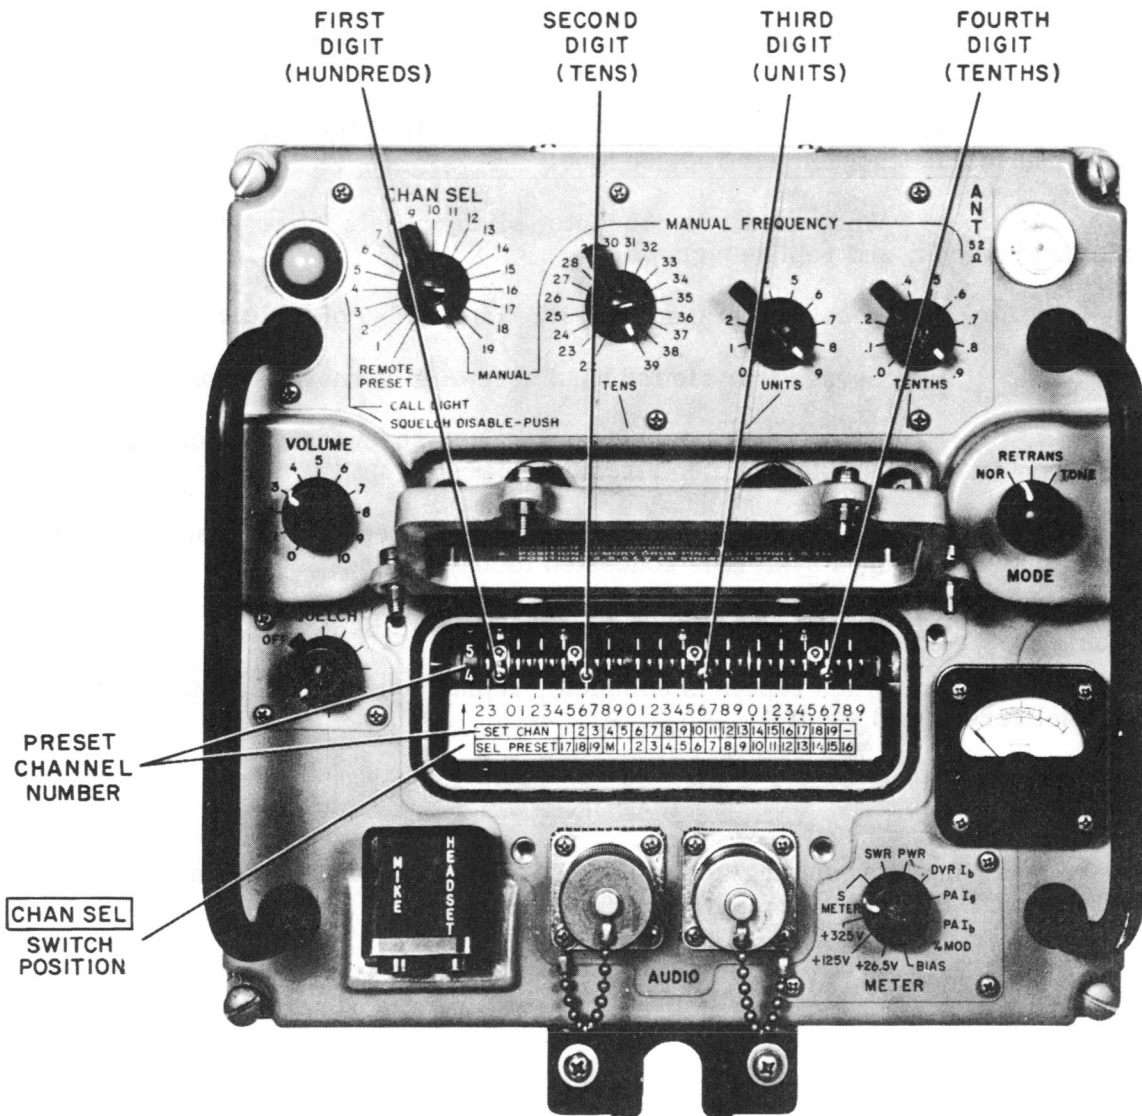

Figure 6-1. Preset Channel Memory Drum, Radio Set AN/URC-9
(a) Radio Set AN/URC-9. (See figure 6-1.)
3. Set CHAN SEL switch so that desired channel number on the memory drum appears directly above the chart. See figure 6-1. The proper CHAN SEL switch position can be determined from the chart; for example, to position memory drum for presetting channel 4, set CHAN SEL switch to MANUAL position.